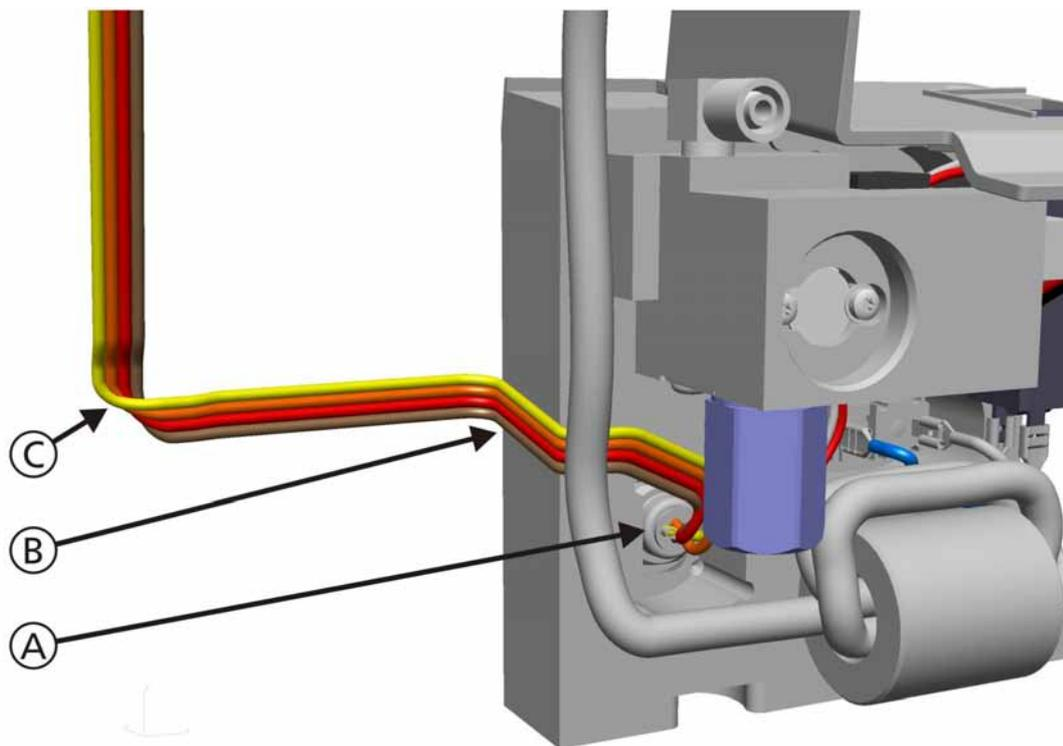

Figure 11-49. DC Input Power Cable Assembly
- Figure 11-49, *DC Input Power Cable Assembly*, on page 11-56